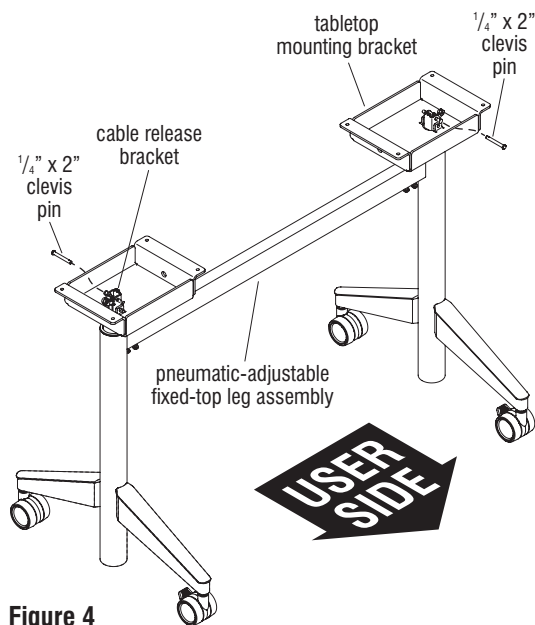

Figure 4
12. Remove a  $\frac{1}{4}$ " x 2" clevis pin from each cable release bracket housed inside the tabletop mounting brackets (Figure 4 & Detail E).